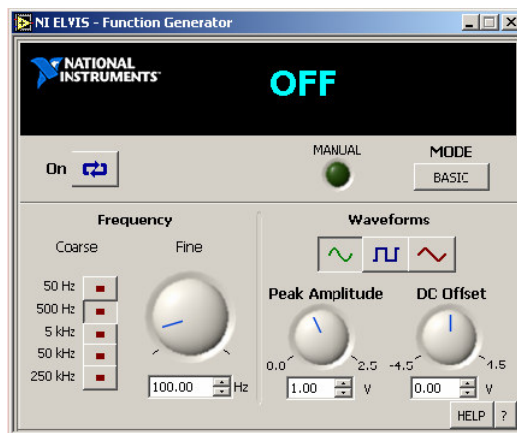

Fig 10. Uninitialized Function generator.
5. From NI Elvis instrument launcher, click on "Function Generator" (FGEN). Ensure that the manual mode is turned off on the workstation so that all the buttons on the function generator window are not disabled. The initial function generator should appear as shown in figure 10.
As shown in figures 10 & 11, FGEN SFP has the following controls which can be used to: